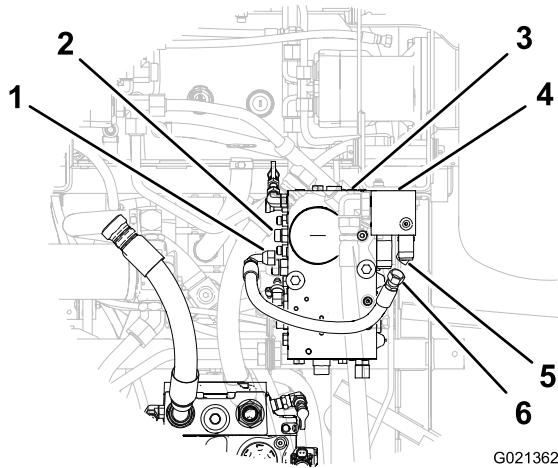

Figure 7
1. Remove the inboard-hose fitting for the traction-control hose from the hydraulic fitting in port (CH1) of the combination manifold (Figure 7).